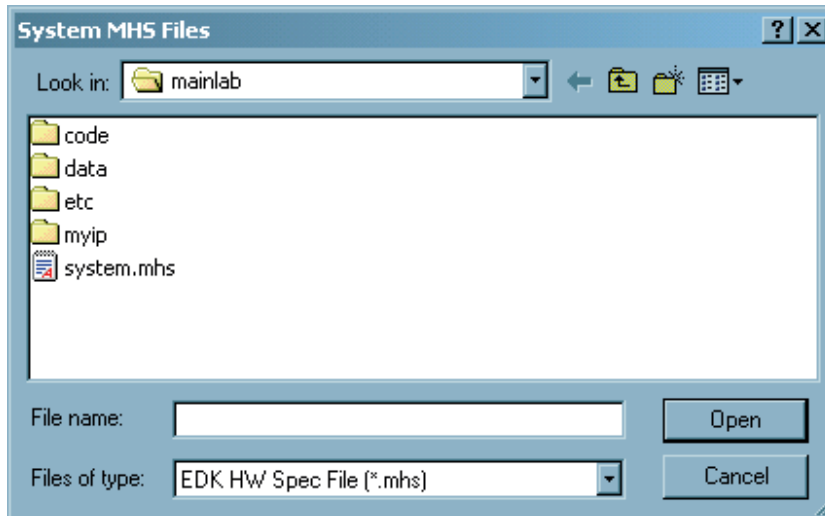

Figure 3-4. Adding the MHS file to the XPS Project.
- 5 Select the system.mhs file and click **Open** as shown in figure 3-4